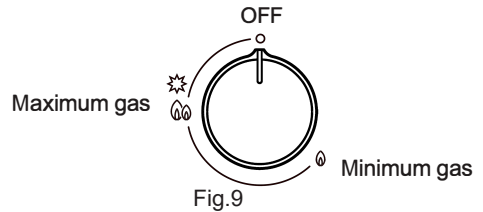

Fig.9
- Reactivating the Timer: Turn the knob clockwise to the "O" position (Fig 9), then turn the wok burner back on.